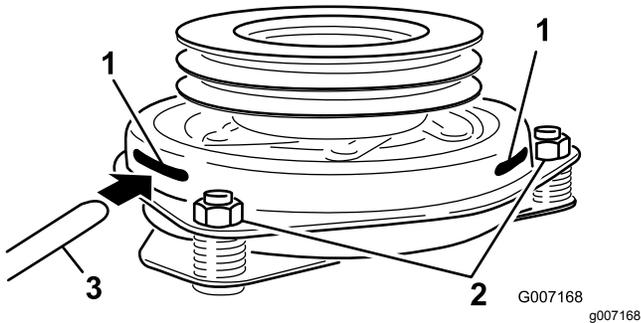

Figure 65
9. Insert a 0.381 to 0.533 mm (0.015 to 0.021 inch) feeler gauge through an inspection slot in the side of the assembly (Figure 65).
10. Tighten the locknuts until there is slight binding on the feeler gauge but it can be moved easily within the air gap (Figure 65).